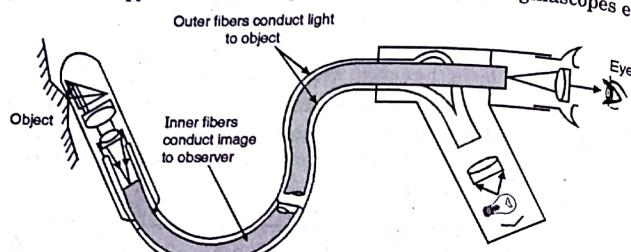

Fig. 5.10.2 : Image Carrier
(2) Medicine
- As shown in Fig. 5.10.2 bundle of fibres, which forms a flexible cable of few millimeter thickness is inserted into human body through certain openings or by drilling a small hole.